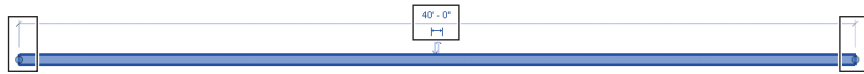

FIGURE 2.11 Modifying the wall length
3. There are two options to modify the length, as shown in Figure 2.11. You can type in a new value by selecting the temporary dimension, or you can simply drag either wall end to a new location.